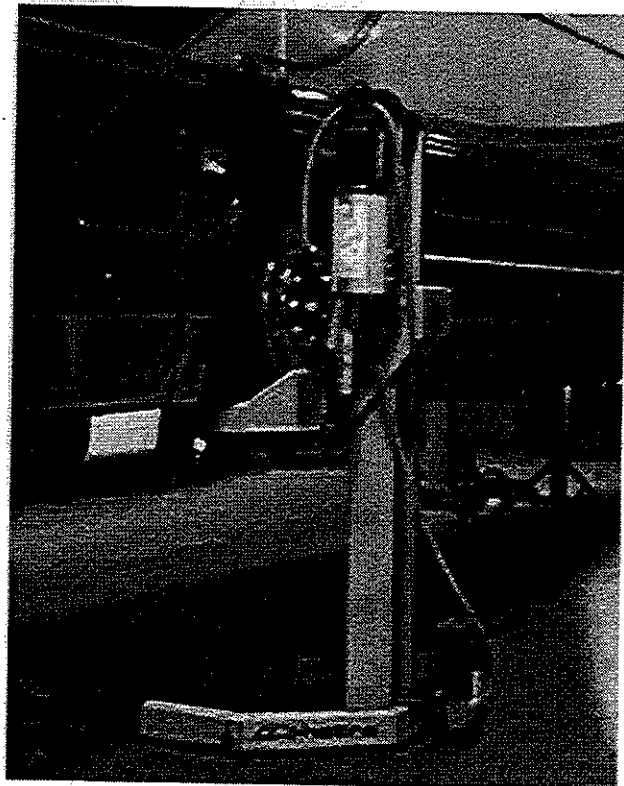

Figure 1—ARI-hetra Mobile Lifting System
3. Raise the bus using four jacks. (See Figure 1—ARI-hetra Mobile Lifting Systems.)